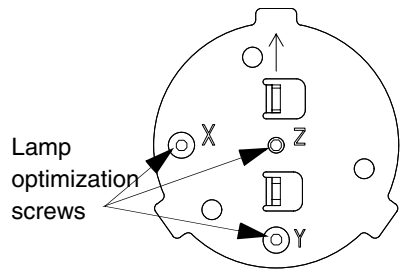

Figure 3-6 Lamp optimization
5. Locate the X, Y, and Z optimization 9/64” hex screws (see Figure 3-6).